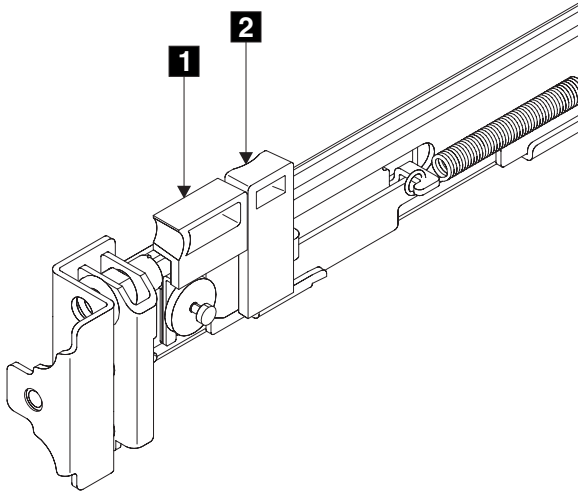

Figure 59. Retracting the latch-lock carrier
2. Put your index finger against the side of the latch-lever, **1** in Figure 59, and put your thumb against the front of the latch-lock **2**.